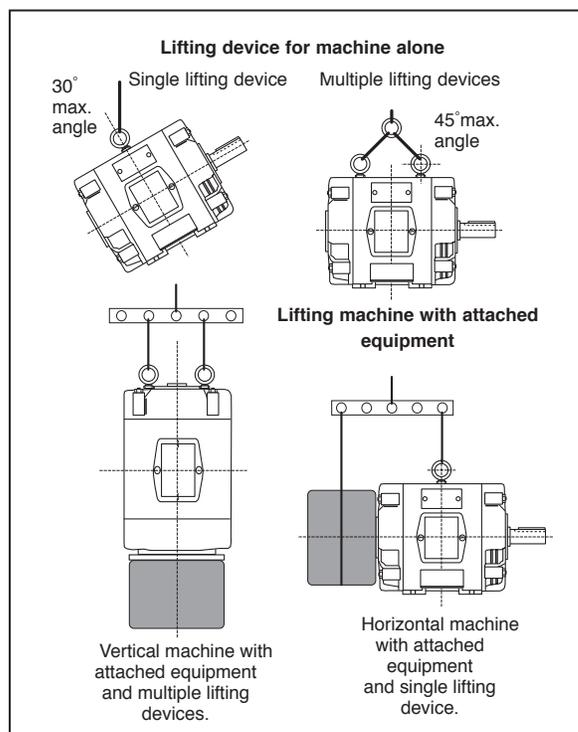

Figure 2. Safe lifting methods.
- Always lift the motor by its lifting lugs (see Figure 2). On larger motors, use all lugs for safety and to prevent frame distortion.